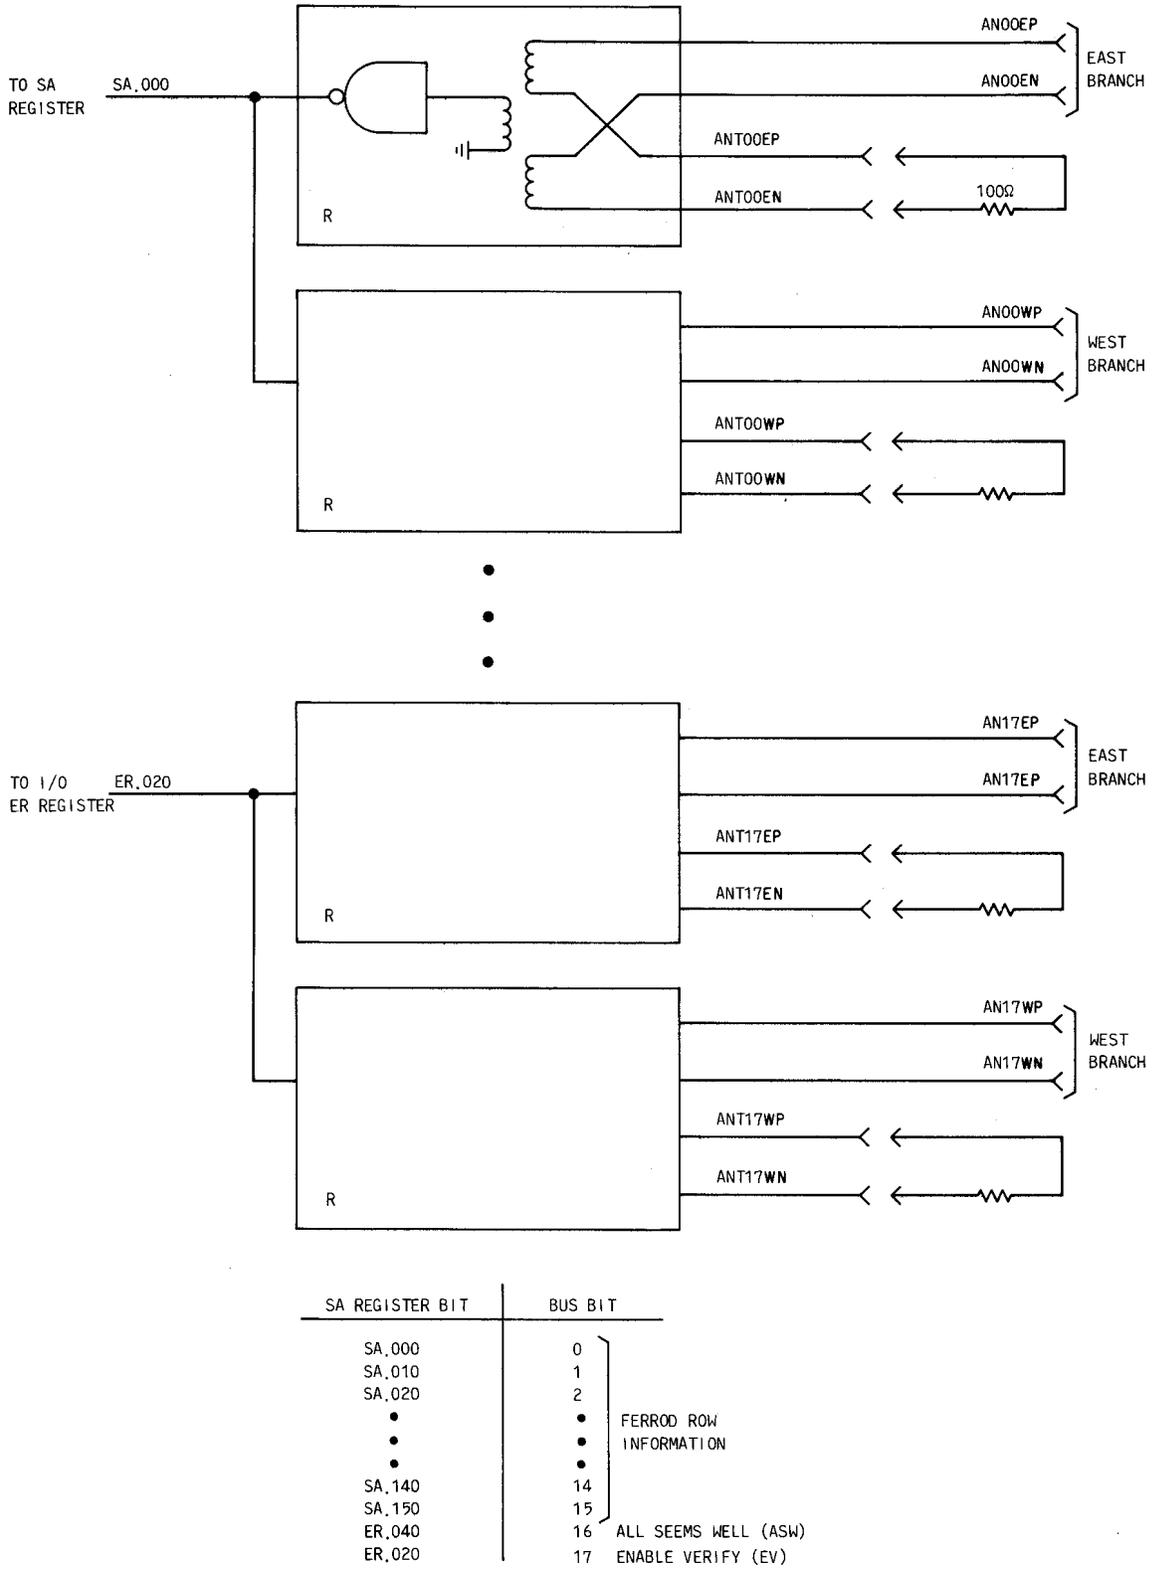

Fig. 7—Scan Answer Receivers
**3.13** The SA bus (Fig. 3) consists of 16 pairs of balanced 100-ohm transmission lines. Ferrod row information is transmitted to the scanner answer register via these transmission lines. Two bits of data other than ferrod row information are also transmitted by way of these lines to the I/O error register (I/OER). These bits, all-seems-well (ASW) bit 16, and enable verify (EV) bit 17 are used by the 3A CC to check for the proper execution of peripheral orders. Two scanner answer bus branches designated east and west are "ORed" at the output of their cable receivers (Fig. 7). The use of two scanner answer bus branches makes the layout of the office easier because the SA bus can be more easily routed to the peripheral units and remain within the length requirement for the bus. The SA register is used to buffer data from the SA bus.